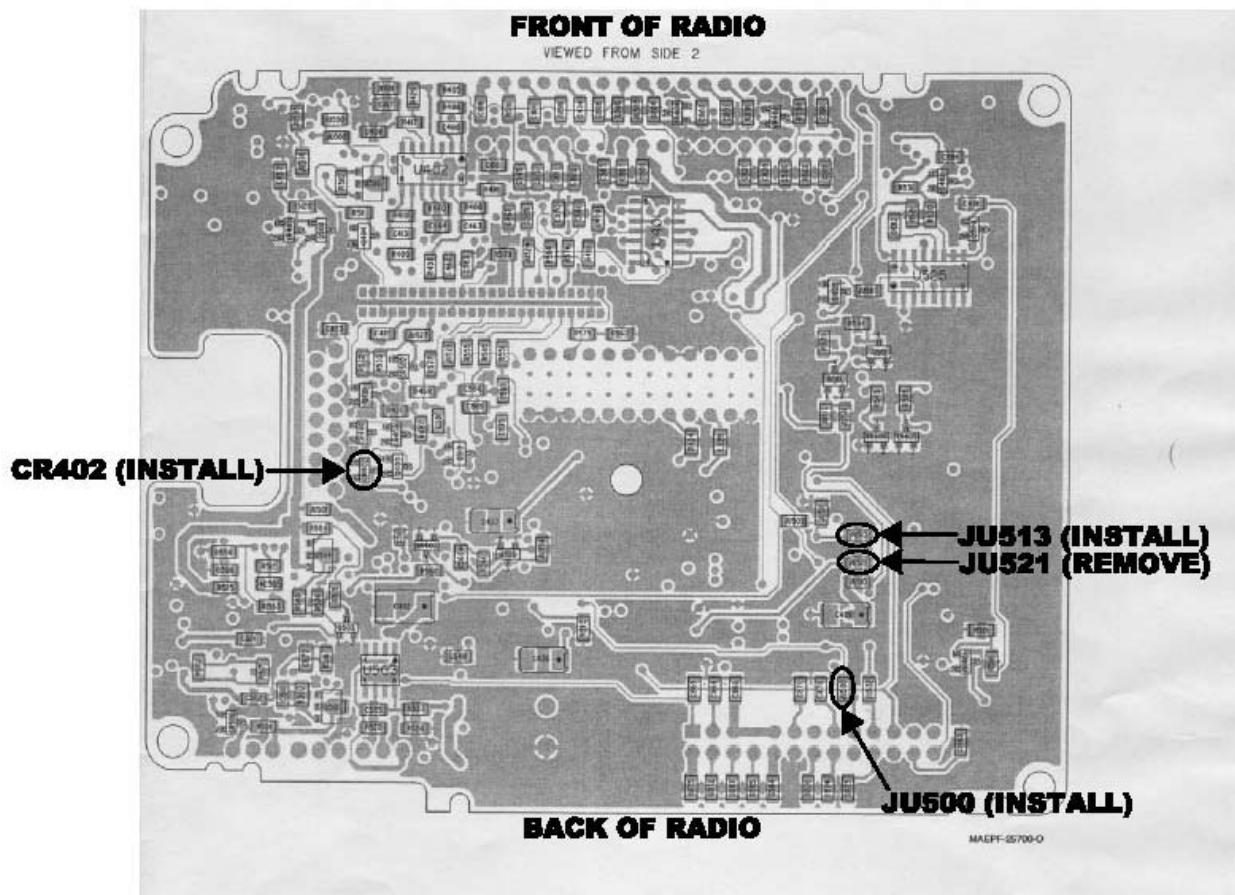

FIGURE 2. COMMAND BOARD – BOTTOM VIEW
- 9) Locate the zero ohm resistor JU518 on the top of the board (See Figure 1). If present, carefully unsolder resistor JU518 and reinstall it into the unoccupied jumper position JU500 on the other side of the board (See Figure 2).
- 10) On the bottom side of the Command Board verify presence of jumper JU521 (See Figure 2). If present remove the zero ohm resistor JU521 and reinstall it into the unoccupied position JU513.
On the front side of Command Board locate and remove jumpers JU520 and JU512. Place one of the removed jumpers in the unoccupied position JU515 (See Figure 1). On the backside place the SOT-23 diode in position CR402 (See Figure 2).